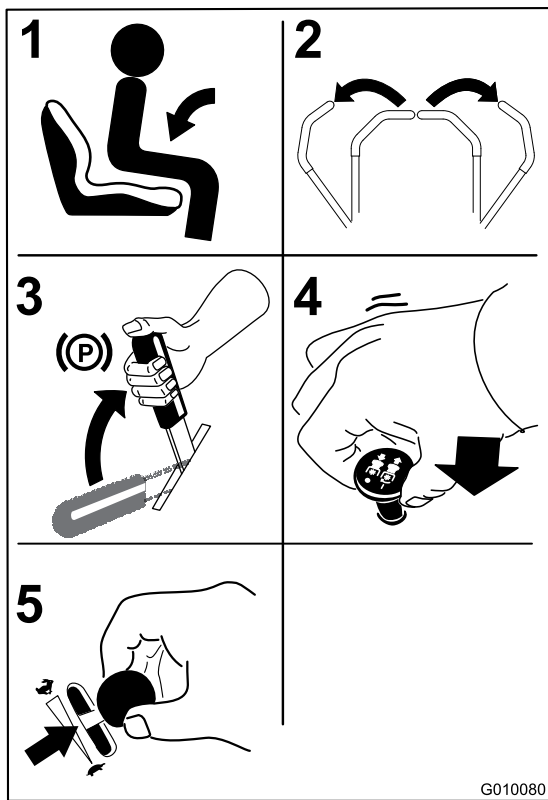

Figure 18
1. Sit down on the seat (Figure 18) and fasten the seat belt.
2. Move the motion controls outward to the neutral lock position (Figure 18).
3. Set the parking brake (Figure 18); refer to Setting the Parking Brake.
4. Move the blade control switch (PTO) to the Off position (Figure 18).